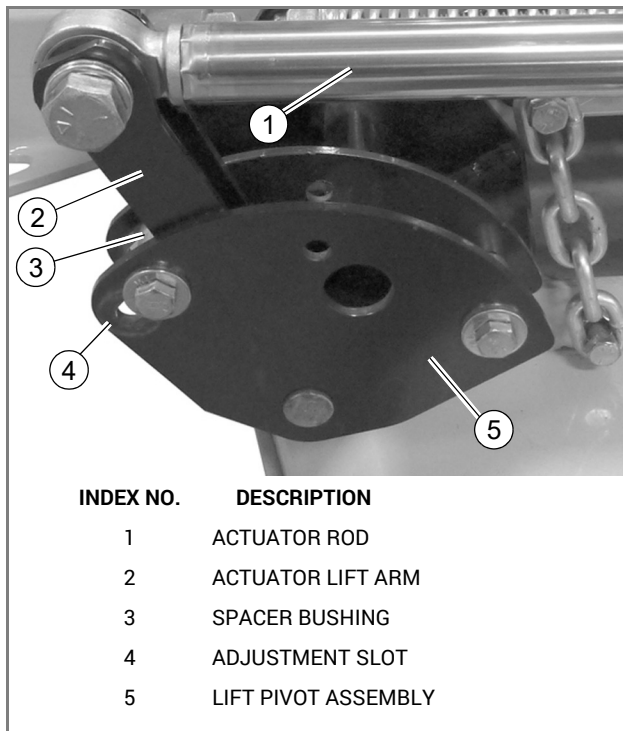
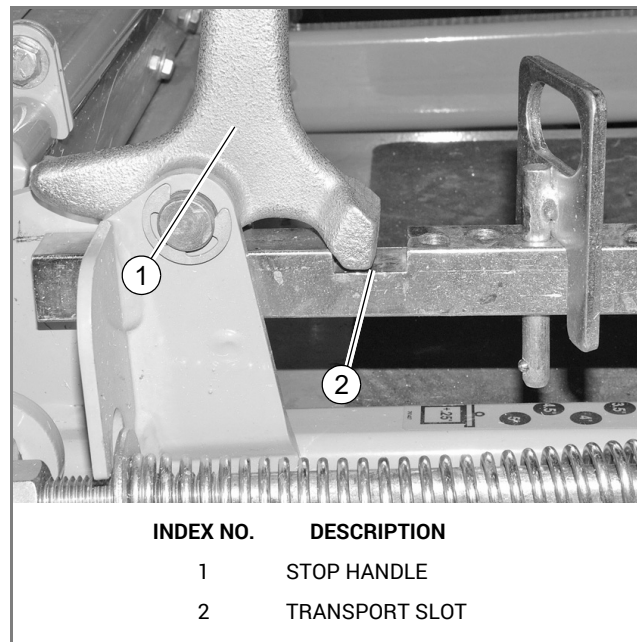

FIG. 22
FIG. 23
5. Slide the upper spacer bushing in the lift pivot slot until it makes contact with the actuator lift arms. Tighten the hardware to prevent the actuator rod from bottoming out during operation. FIG. 22
6. Check to see that the stop handle is in the middle of the transport slot when the actuator rod is fully extended. If it is not, loosen the bolt and nut in the slot on the lift pivot assembly and adjust the stop using the slot in the lift pivot assembly until the stop handle is in the middle of the transport slot. The mower is ready for testing. FIG. 22 & FIG. 23